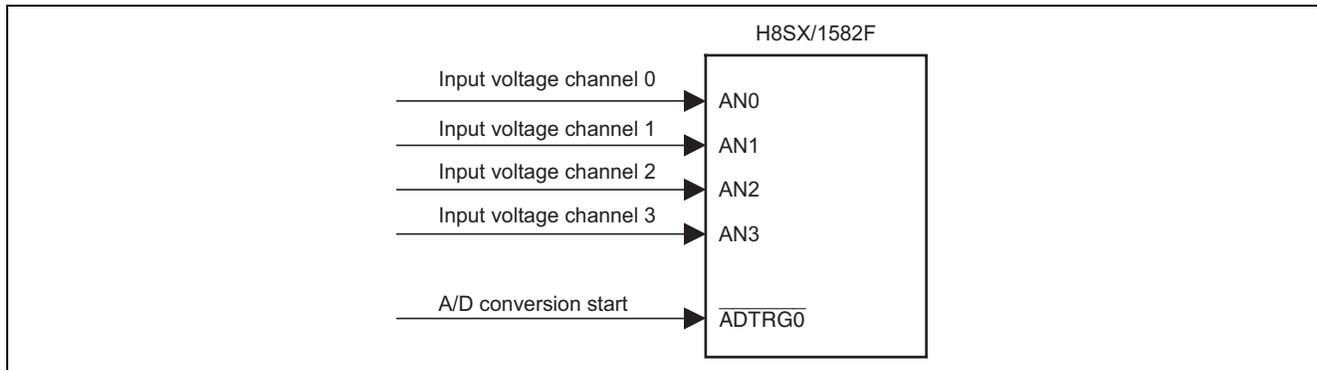

Figure 1 A/D Conversion in Scan Mode
- A/D conversion in scan mode is shown in figure 1.